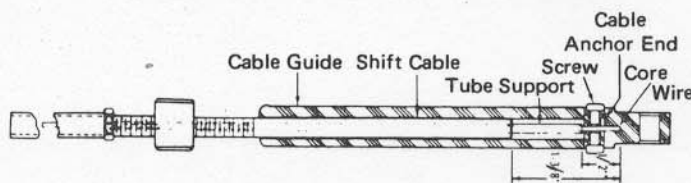

Figure 1. Support Tube and Core Wire Dimensions
1. With cable end guide removed, shift unit in full forward gear. While shifting, turn propeller shaft counterclockwise until shaft stops, to assure full clutch engagement. Inner core wire of drive unit shift cable must extend exactly 1-3/8" (3.5cm) from end of cable guide insert. (Figure 1)
Slide support tube over core wire so that 1/2" (12.7mm) of core wire is shown. (Figure 1) It is secured to core wire by crimping.
3. Snug one anchor screw and tighten the other to secure core wire. (Figure 1)